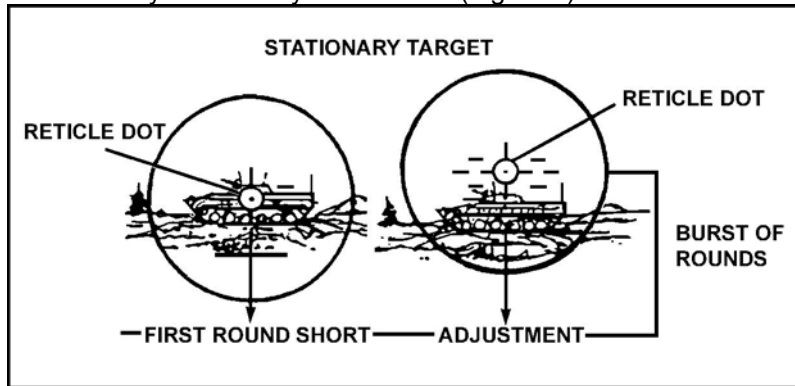

Figure 6. Round adjustment.
13. When the sensing round hits the target, the Bradley commander commands TARGET. The gunner maintains the initial sight picture and fires and adjusts three- to five-round bursts until given the command CEASE FIRE by the Bradley commander (Figure 6).